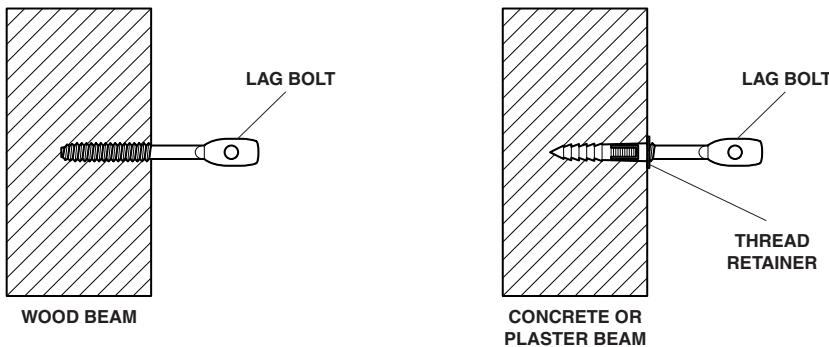

Figure 5 – Lag Bolt Installation
- **For wood beams or rafters:** Screw the supplied eye lag bolts securely into the beam or rafter. See *Figure 5 – Lag Bolt Installation*.
- **For concrete beams or rafters:** Drill a 1/4-in. diameter X 1-1/2-in. deep pilot hole at each selected anchor point. Use a hammer to tap a plastic thread retainer into each pilot hole. Hand-thread an eye lag bolt into each retainer, then use pliers or vice grips to tighten the bolts fully. See *Figure 5 – Lag Bolt Installation*.